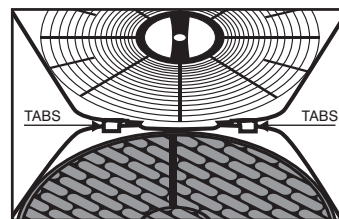

Fig. 12
6. Place the tabs at the bottom of the grill plate into the base of the unit. See Fig. 12